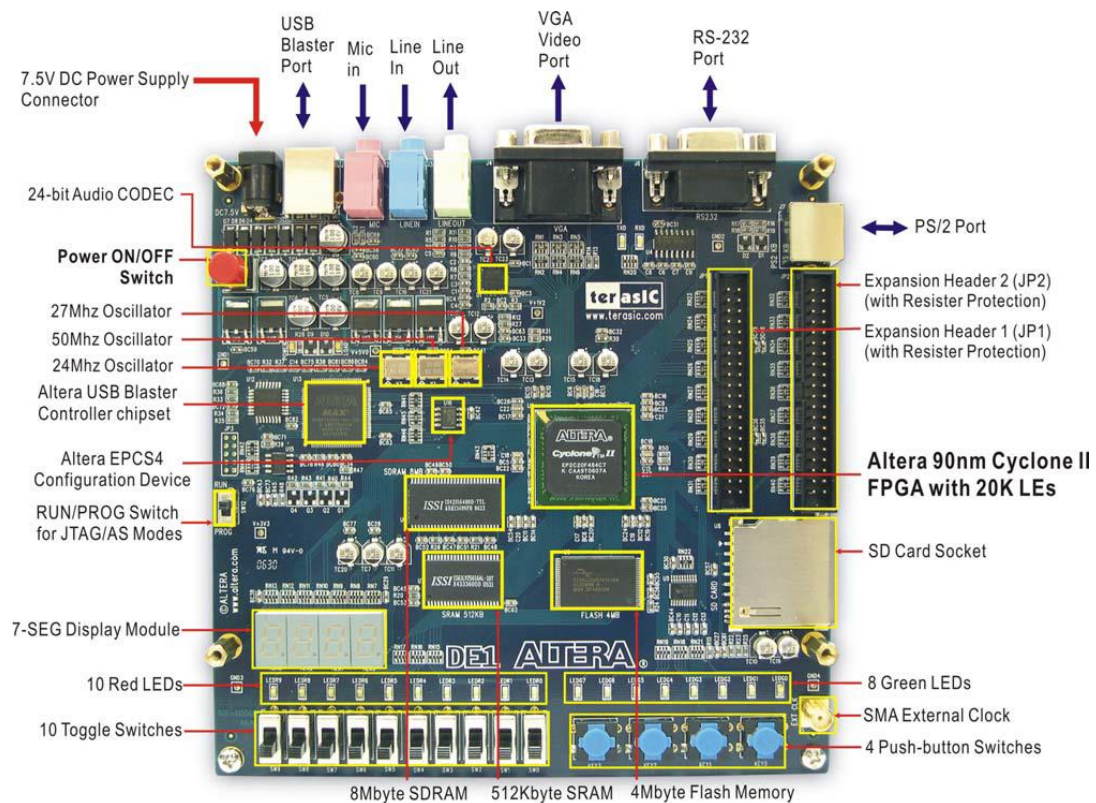

Figure 2. Layout of the DE1 Development and Education Board.
2. **Altera DE1 Development and Education Board** – The DE1 accommodates the implementation and test of small to complex digital logic circuits utilizing the Altera Cyclone II field programmable gate array (FPGA) and supporting devices. See Figure 2. The DE1 can also be used to provide power and I/O for The BitBoard. A DE1 will be checked out to you for the semester. ***You will be required to return the DE1 at the end of the semester.***